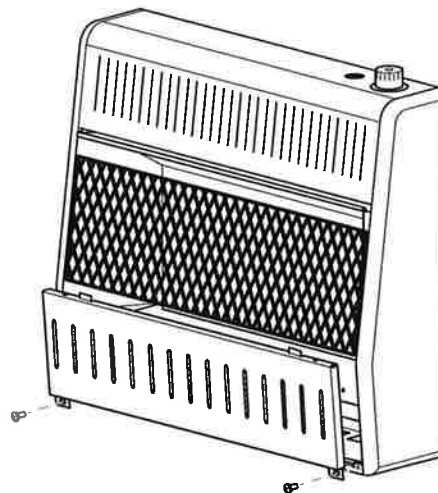

Figure 8 - Removing Front Panel Of Heater
2. Pull bottom of lower front panel forward, then down (see Figure 8).